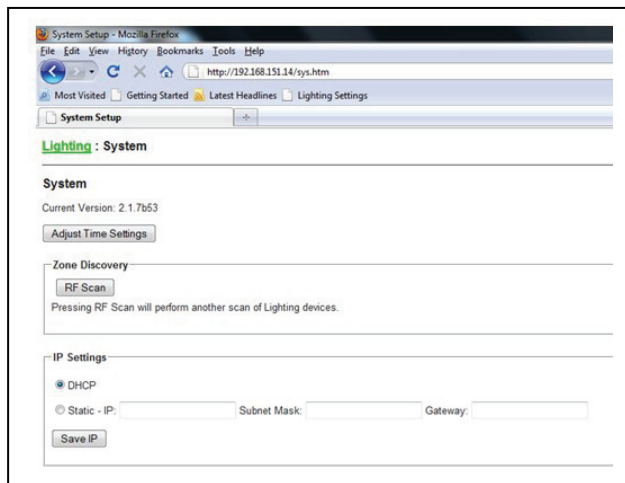

Figure 3
- A. Using a PC Browser the user can access the Setup Application by entering the IP address shown on the front panel Display. The Setup Application provides the ability to select for customization "System", "Zones", "Collections", "Scenes", or "Events". If you select "System", you should see a screen similar to the one shown in **Figure 3**.